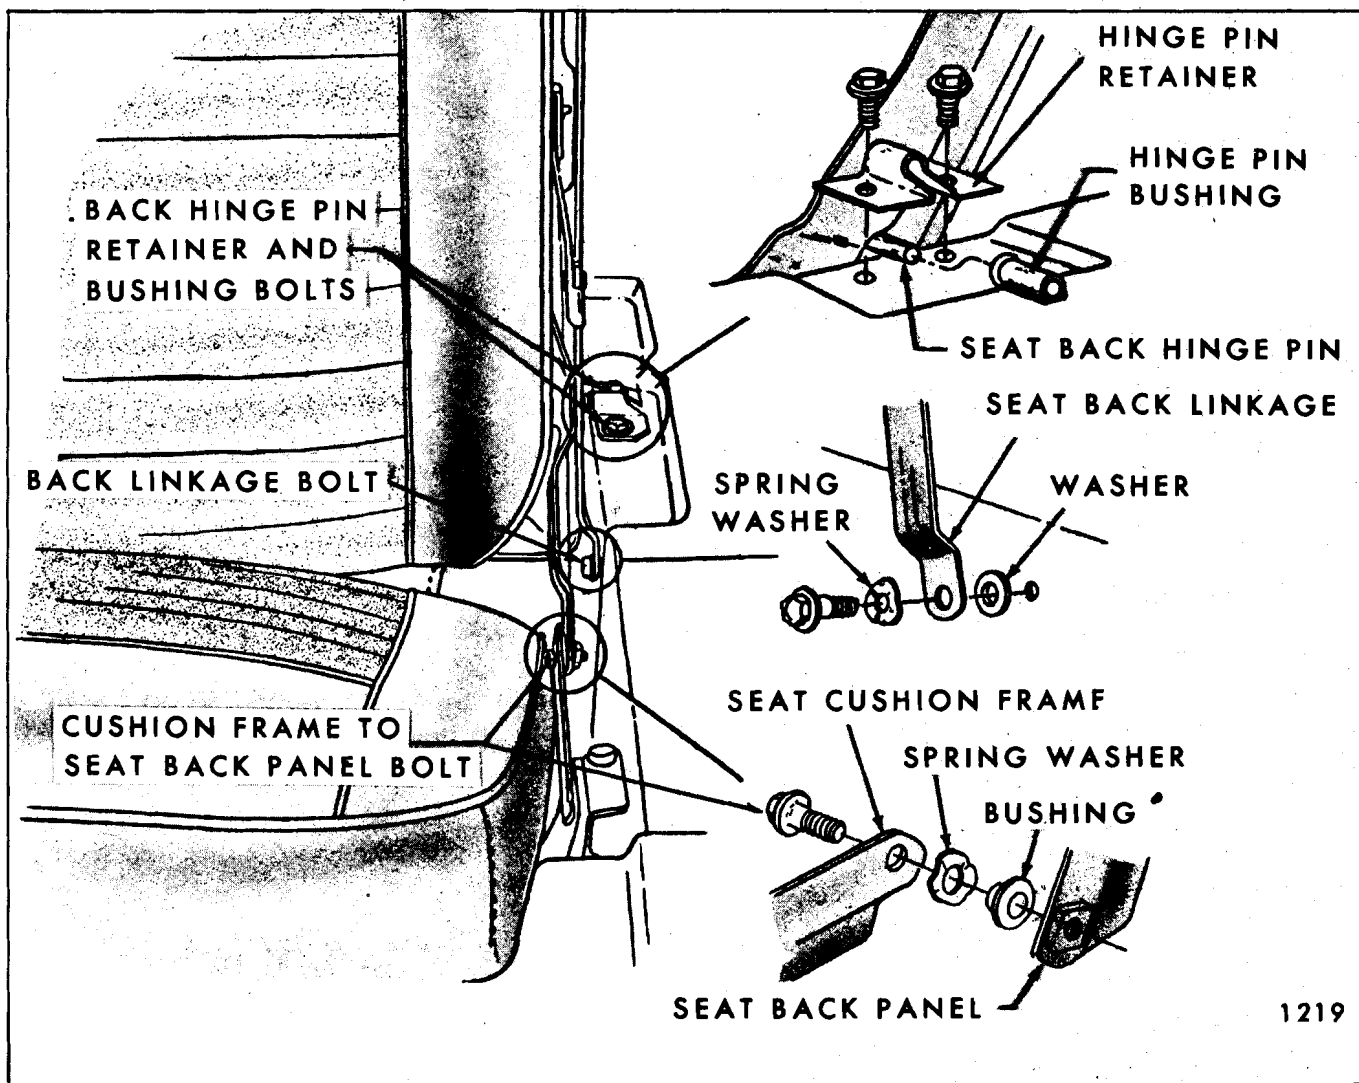

Fig. 14-83-Folding Third Seat - Vista Cruiser "66" Style
2. Remove seat back linkage-to-compartment side pan attaching bolt at both right and left sides of seat (Fig. 14-83).
3. At left side of seat remove seat back hinge pin retainer (Fig. 14-83).
5. To install folding third seat and floor panel assembly, reverse removal procedure. Make sure a seat back hinge pin bushing is installed over both hinge pins. Also install flat washer between seat back linkage and compartment side pan and spring washer between linkage and bolt head (Fig. 14-83).
3. Remove seat cushion frame-to-seat back panel attaching bolt from both sides of seat; then, remove seat cushion assembly and place on a clean surface (Fig. 14-83).
5. To install, reverse removal procedures. When installing seat cushion frame-to-seat back frame attaching bolts install bolt bushing and spring washer, as shown in insert on Figure 14-83.
- To remove seat back panel assembly, remove seat cushion frame-to-seat back panel attaching bolt; then, remove seat back panel with attached rear floor filler (at kick-up) panel from seat cushion (Fig. 14-83).
- To install, reverse removal procedure. Refer to inserts in Figure 14-83 for correct installation of linkage bolts, bushings and spring washers.